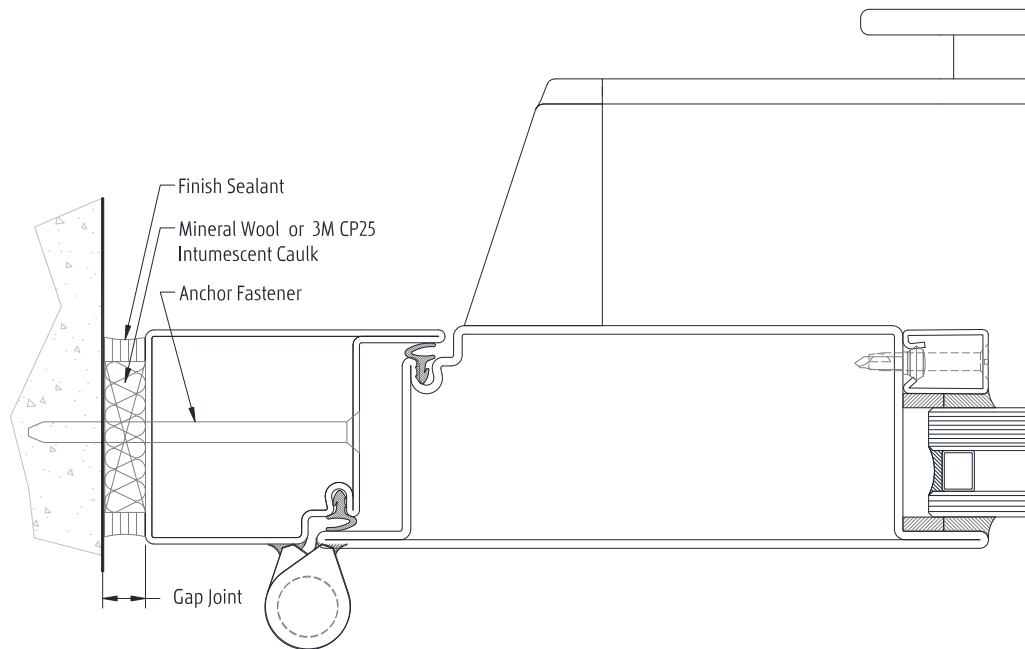

Figure 19 - Install Firesafing and Seals
- 6.9 Install Firesafing and Finish Seals to perimeter joint gaps (Figure 19).